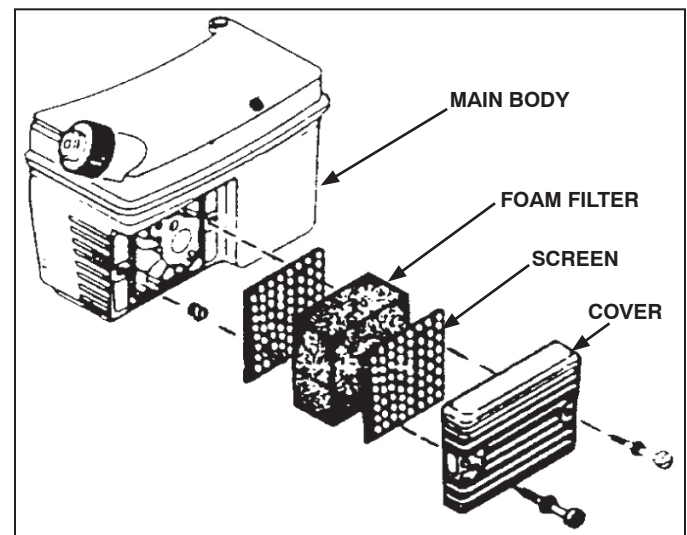

Fig. 13
5. Reassemble AIR CLEANER as shown in Fig. 13.